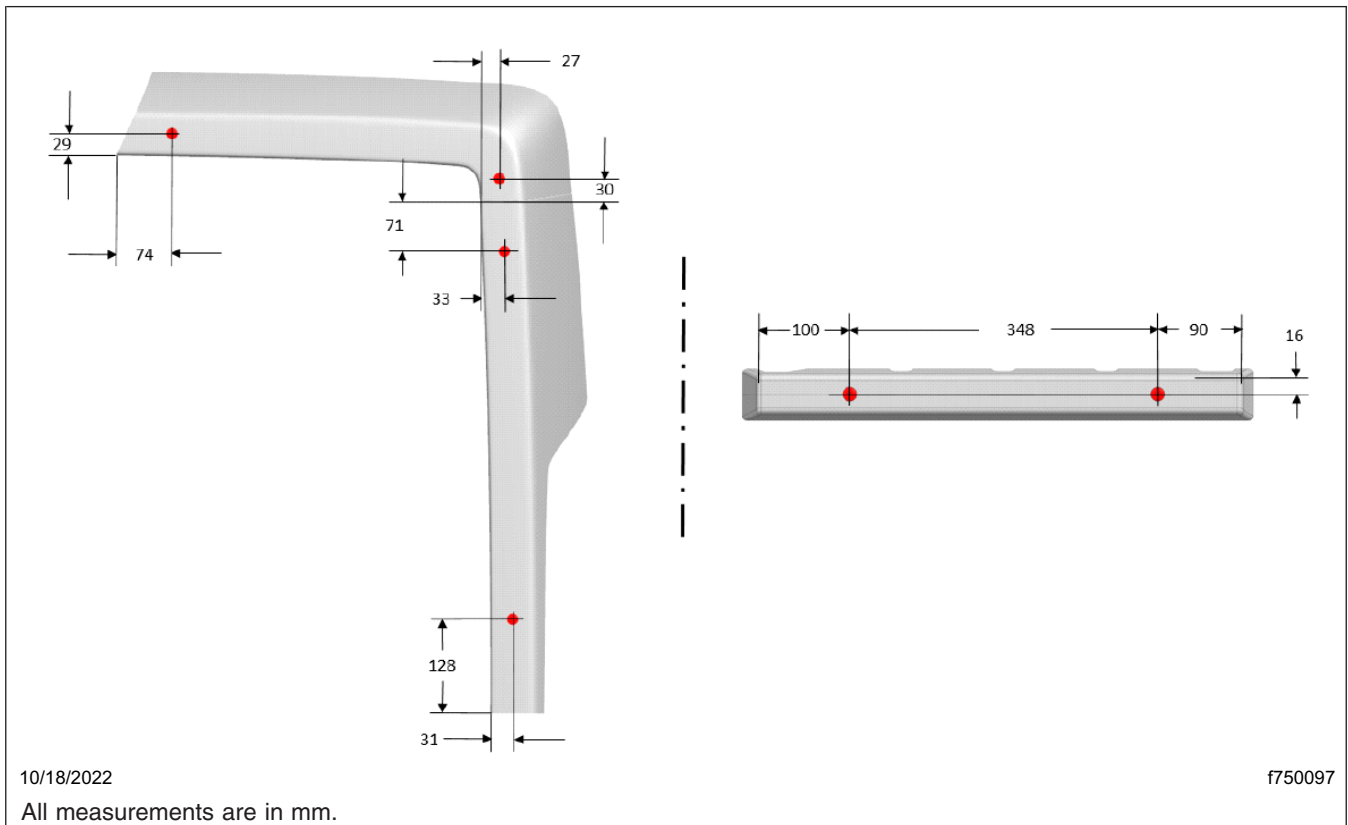

Fig. 3, Drilling Location Measurements (left-hand side bezels shown)
8. Mark all the drilling locations using the measurements provided in Fig. 3.